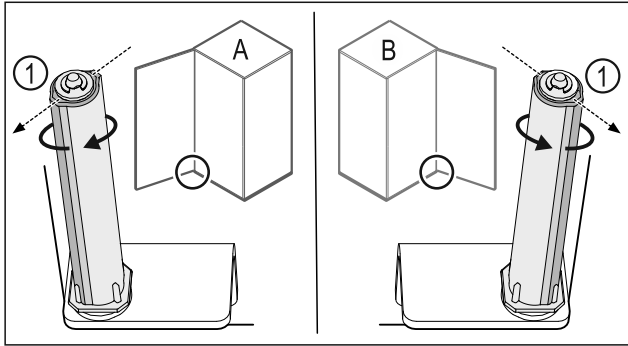

Fig. 45 Left stop (A) / right stop (B)
- ▶ Turn the closing system against the resistance until the bridge of the closing system Fig. 45 (1) shows outward.